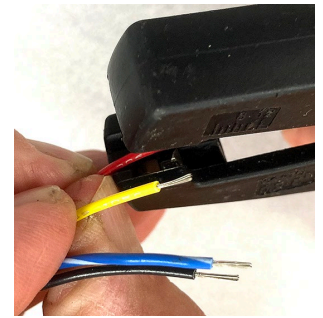

Figure 5
2. Pull back the black harness sheathing and strip each wire (see Figure 5).
2. Pull back the black harness sheathing and strip each wire (see Figure 5 above).